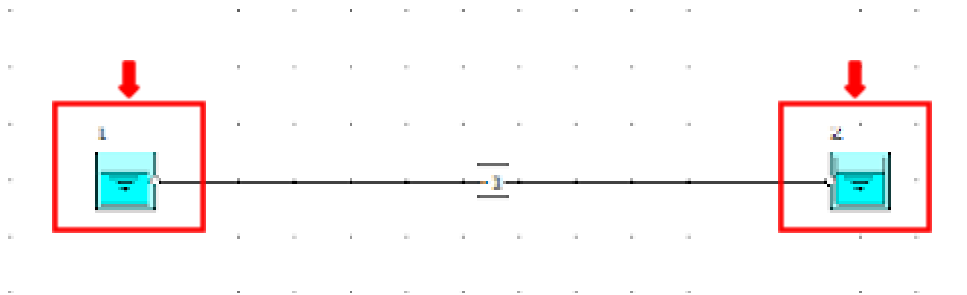

Figure 7: Highlighted Nodes.
8. Left mouse-click on the inlet boundary (node 1) and whilst holding the SHIFT key, left mouse-click on the outlet boundary (node 2). You should now see both nodes highlighted on the flowsheet (Figure 7).